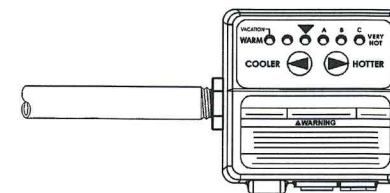

FIGURE 8.
12. Un-thread and remove the straight section of 1/2 inch diameter pipe that is attached to the Intelli-vent™ Thermostat Control, (183760 Series) and thread the pipe into the Intelli-vent™ Thermostat Control, (184960 Series), see Figure 8.